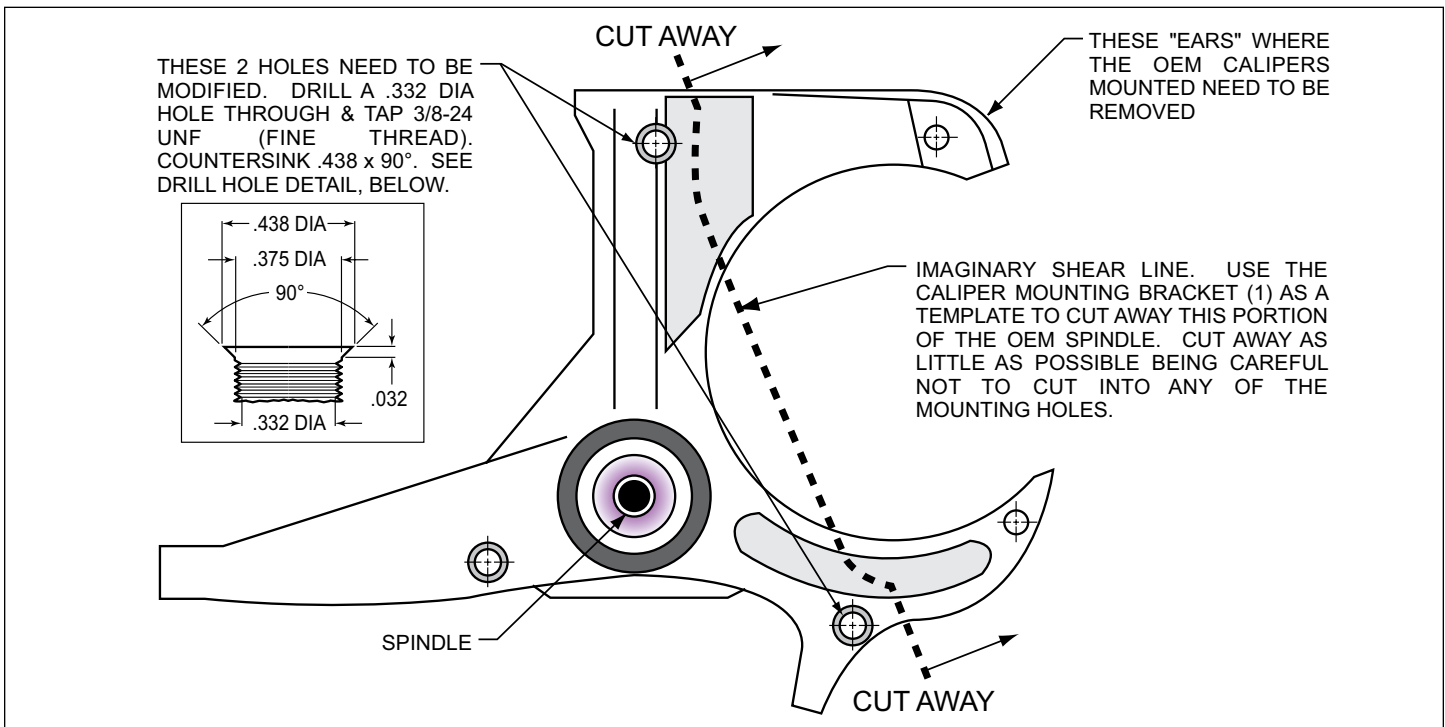

Figure 1. Steering Arm / Spindle Modifications
These modifications should be performed by a qualified machinist. Refer to Figure 1 on the following page as necessary (numbers in parenthesis refer to the parts list on page three). Only one view of the steering arm/spindle is shown, but the modifications need to be performed on both steering arm/spindles.
The two stock holes that will be used to mount the caliper mounting bracket (1) need to be modified (figure 1). Drill a .332 diameter hole through both holes, then tap 3/8-24 UNF (fine thread). Countersink the holes to .438 x 90°. The “ears” that protrude to form a “C” shape need to be removed to facilitate the installation of the Wilwood caliper (22). Using the caliper mounting bracket (16) as a template, mark two cut marks on the steering arm. Remove as little as necessary from the “C” shape, being careful not to cut away any of the mounting holes required to bolt on the caliper mounting bracket (1).
- **NOTE:** This kit contains distinct right and left hand calipers that must be mounted in a specific direction, as described below. Initially place two .030" thick shims (24) on each stud (23) as shown in Figure 1. Mount the caliper (22) onto the bracket (16) using lock nuts (26) and washers (25), Figure 1. Ensure that the caliper is mounted so that the largest pistons are at the rotor exit end of the caliper, in relation to the direction of rotor rotation. Temporarily tighten the lock nuts.
- View the rotor (7) through the top opening of the caliper (22). The rotor (7) should be aligned in the center of the caliper (22). If not, adjust the radial mount caliper bracket (16) by using shims (21 and/or 28) placed between the two brackets (1 and 16). Add as many shim washers (21 and/or 28) as necessary to achieve the correct alignment. Always use the same amount of shims on both the top and bottom radial mount caliper mounting bolts (17). Finger tighten and recheck alignment, adjust as necessary. Apply red *Loctite*® 271 to bolt threads (17) and torque to 47 ft-lb.